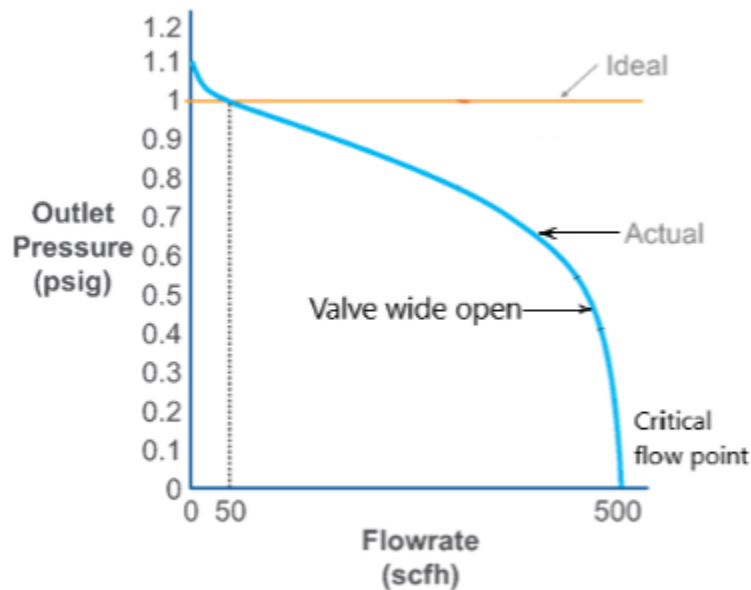

Figure 27. Regulator performance curve
When the flowrate versus outlet pressure of a particular regulator is plotted the actual performance curve looks like the Figure 27. For this regulator the ideal setpoint is made at a flow of 50 SCFH, but that is the only flowrate at which outlet pressure will precisely equal setpoint. Any time the flow demand is greater than 50 SCFH, outlet pressure will droop below 1 psig.
- Figure 27. “Regulator performance curve” from Emerson is used and adapted for educational purposes under the basis of fair dealing.